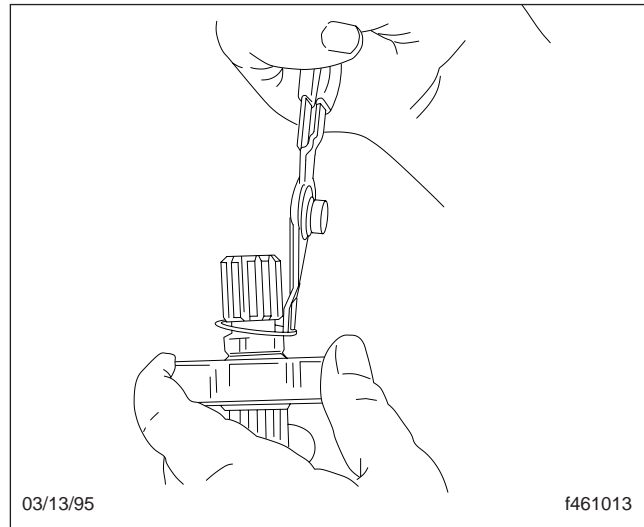

Fig. 24, Removing the Retaining Ring
- 9.1 Remove the retaining ring (engine drive end) from the shaft. See Fig. 24.